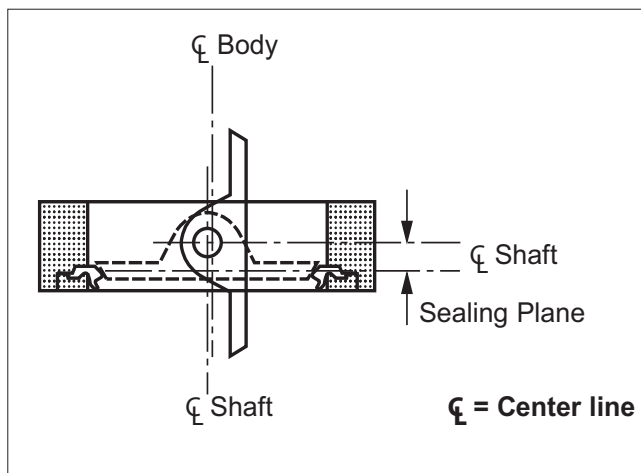

Figure 1. Offset Shaft Operation
One of the design features of the *Wafer-Sphere* valve that is responsible for its superior performance is the valve's offset shaft design. The shaft is offset in two planes: (1) away from the valve disc centerline and (2) behind the disc sealing plane. Offset shaft design makes the rotating disc "cam" back and away from the seat, completely eliminating the usual wear points at the top and bottom of the seat. Because the disc rotates off the seat in an eccentric arc, it operates in one quadrant only (See Figure 1).